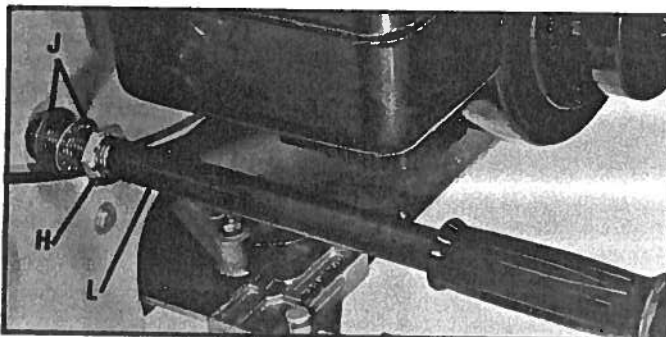

Fig. 6
7. Thread locknut (H) Fig. 6, to within 1/2" of end of threads on left handle (L) and assemble lockwasher and flat washer (J) onto threaded end of handle.